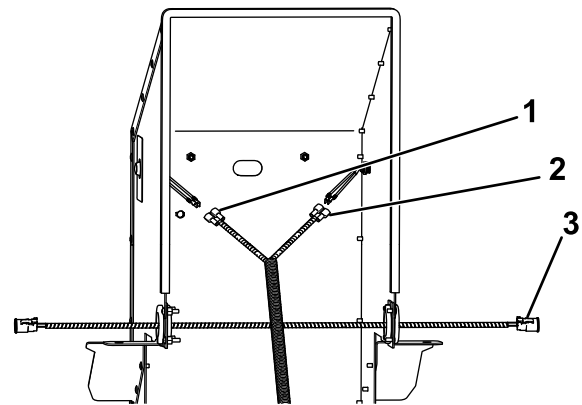

**Figure 5**
12. Remove and discard the plug opposite of the dump switch on the rear cover (Figure 5).
13. Insert the light button assembly through the hole and secure it in place with a retaining clip (Figure 5).